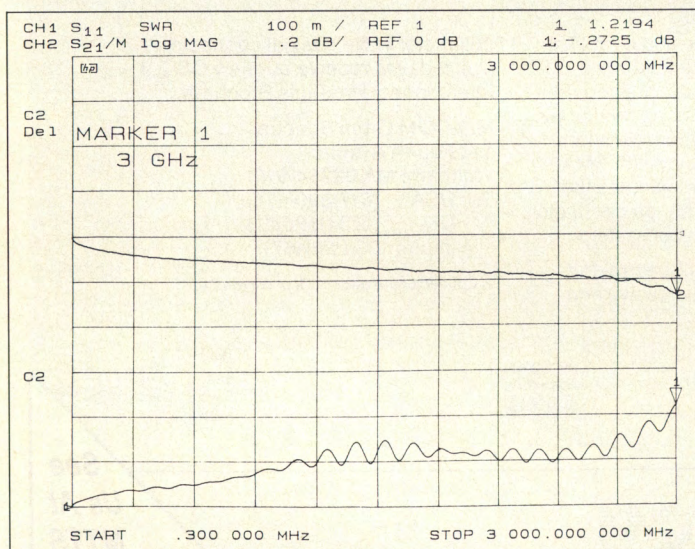

Figure 1. VSWR (upper) and insertion loss (lower) plot for the switch (0.2 units per vertical division).
At an operating frequency of up to 3 GHz, the new Micro Miniature will control over 20 watts of average (CW) cold switched power. The performance as shown in the data was taken with specially adapted SMA connectors which mate with the .018 inch diameter printed circuit pins. When mounted, the switch exhibits a maximum VSWR of 1.25:1 and a maximum insertion loss of 0.3 dB (Figure 1), and a minimum isolation of 80 dB. Below 500 MHz the typical VSWR is 1.05:1, the typical insertion loss is 0.1 dB, and the typical isolation is 100 dB (Figure 2).